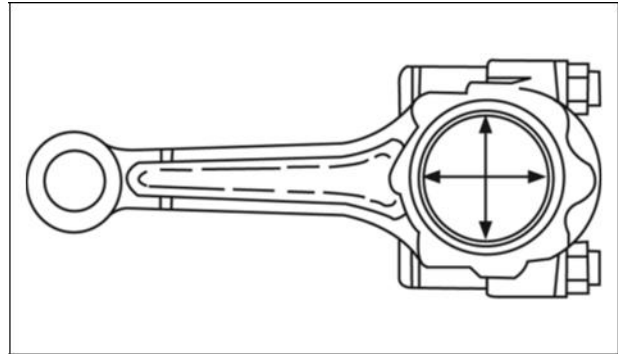

Figure 8
3. Check crankpin bearing end of connecting rod (Figure 8).